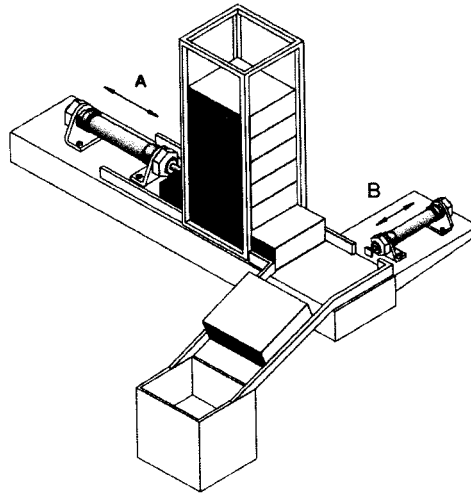

Figure Q3 (b)
- (b) The blocks are pushed out of the magazine by cylinder A and transferred to the processing station by cylinder B as shown in **Figure Q3 (b)**. The piston rod of cylinder B may return only when the piston rod of cylinder A is fully retracted back to its original position. The system will automatically ON when the START button is pressed and OFF when the STOP button is pressed.